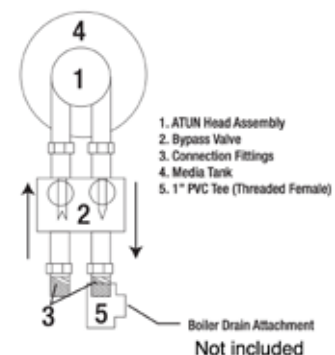

Figure 2. RECOMMENDED PLUMBING PROCEDURE
4. **Plumbing Preparations:** Refer to diagram (Figure 2) for recommended plumbing procedure. Cut main supply line as required to fit plumbing to the inlet and outlet of neutralizer. Use thread tape on nipple threads, as most pipe thread pastes will cause deterioration of plastic fittings. Hold nipples with wrench while attaching plumbing. DO NOT OVERTIGHTEN. If a boiler drain (not supplied) is to be connected, be sure to install it on the outlet side of the ATUN Series Upflow Acid Neutralizer System.